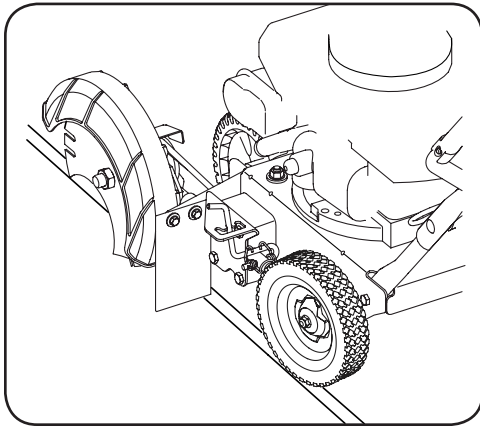

Figure 4-3
1. Move the edger to an area to be edged, making sure that the left rear wheel is on a hard surface and the blade is over the area to be cut. See Figure 4-3.